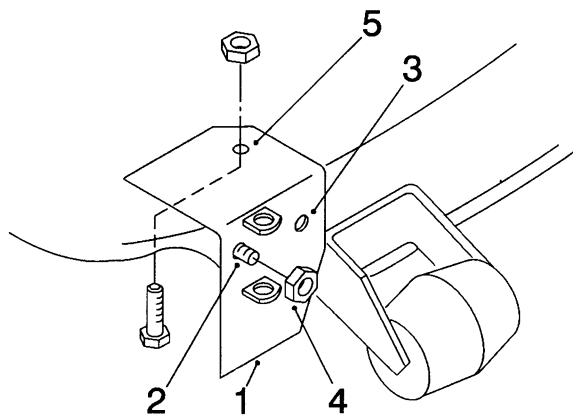

Figure 3
1. Slide the pivot support onto the threaded rod that is welded onto the front of the mower near the discharge opening (Fig. 3).
Note: The pivot support has one hole for mounting it to a 42" mower, and a different hole for the 48" mower (Fig 3).
2. Screw the $\frac{3}{8}$ " deflector jam nut (Fig. 3) onto the threaded rod until the nut is flush with the end of the rod.
4. Drill an $\frac{11}{32}$ " diameter hole in the mower, using the hole in the pivot support as a template (Fig. 3). Remove the clamp after you drill the hole.